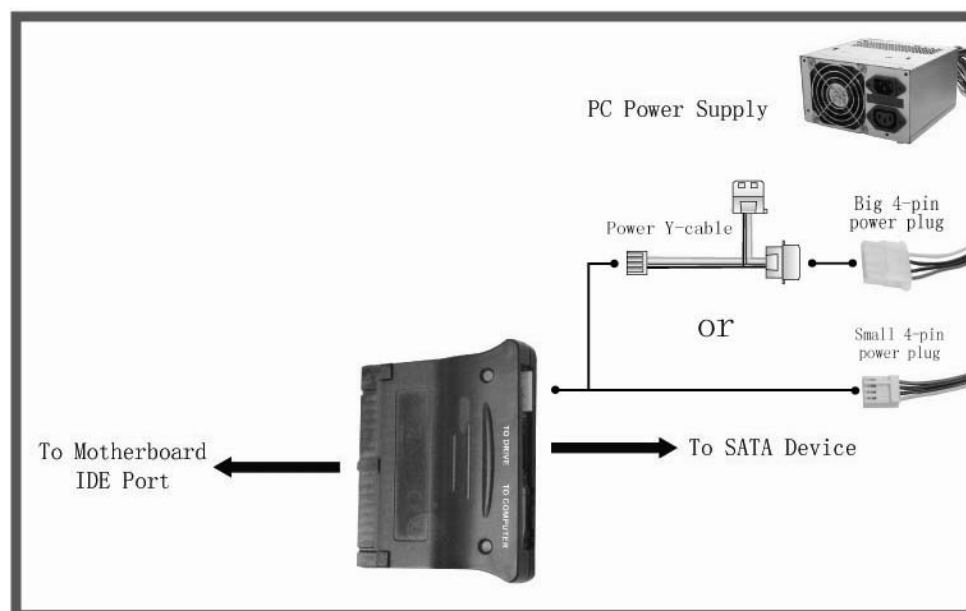

Figure 3: SATA Device to motherboard's IDE Port connection
- Insert this product into an IDE port on the motherboard (Figure 3).
- Connect the Black SATA connector on the adapter to the SATA device using a SATA cable (Figure 3).